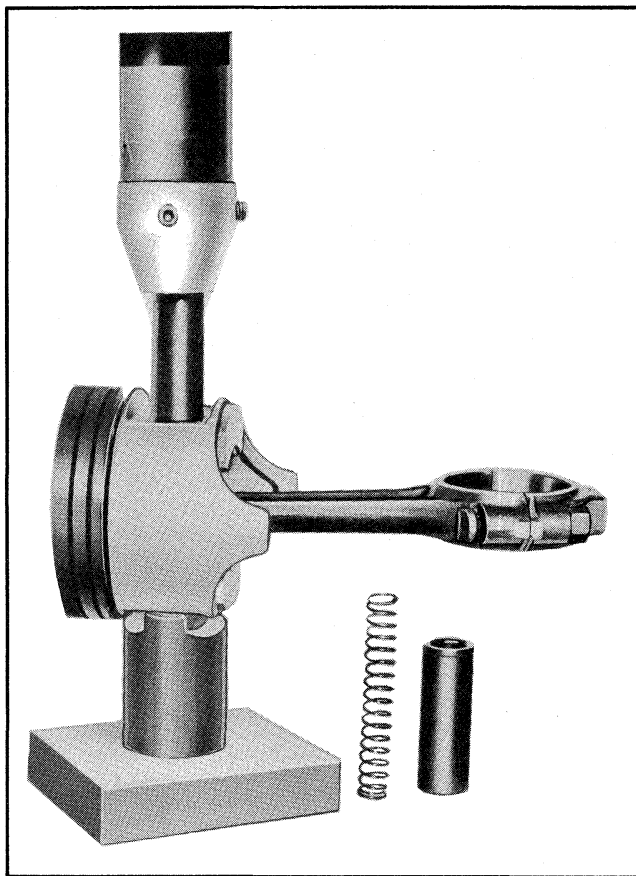

Fig. 6-63 Removing Piston Pin
3. Install piston and connecting rod assembly on support and place assembly in an arbor press (Fig. 6-63). Press pin out of connecting rod.